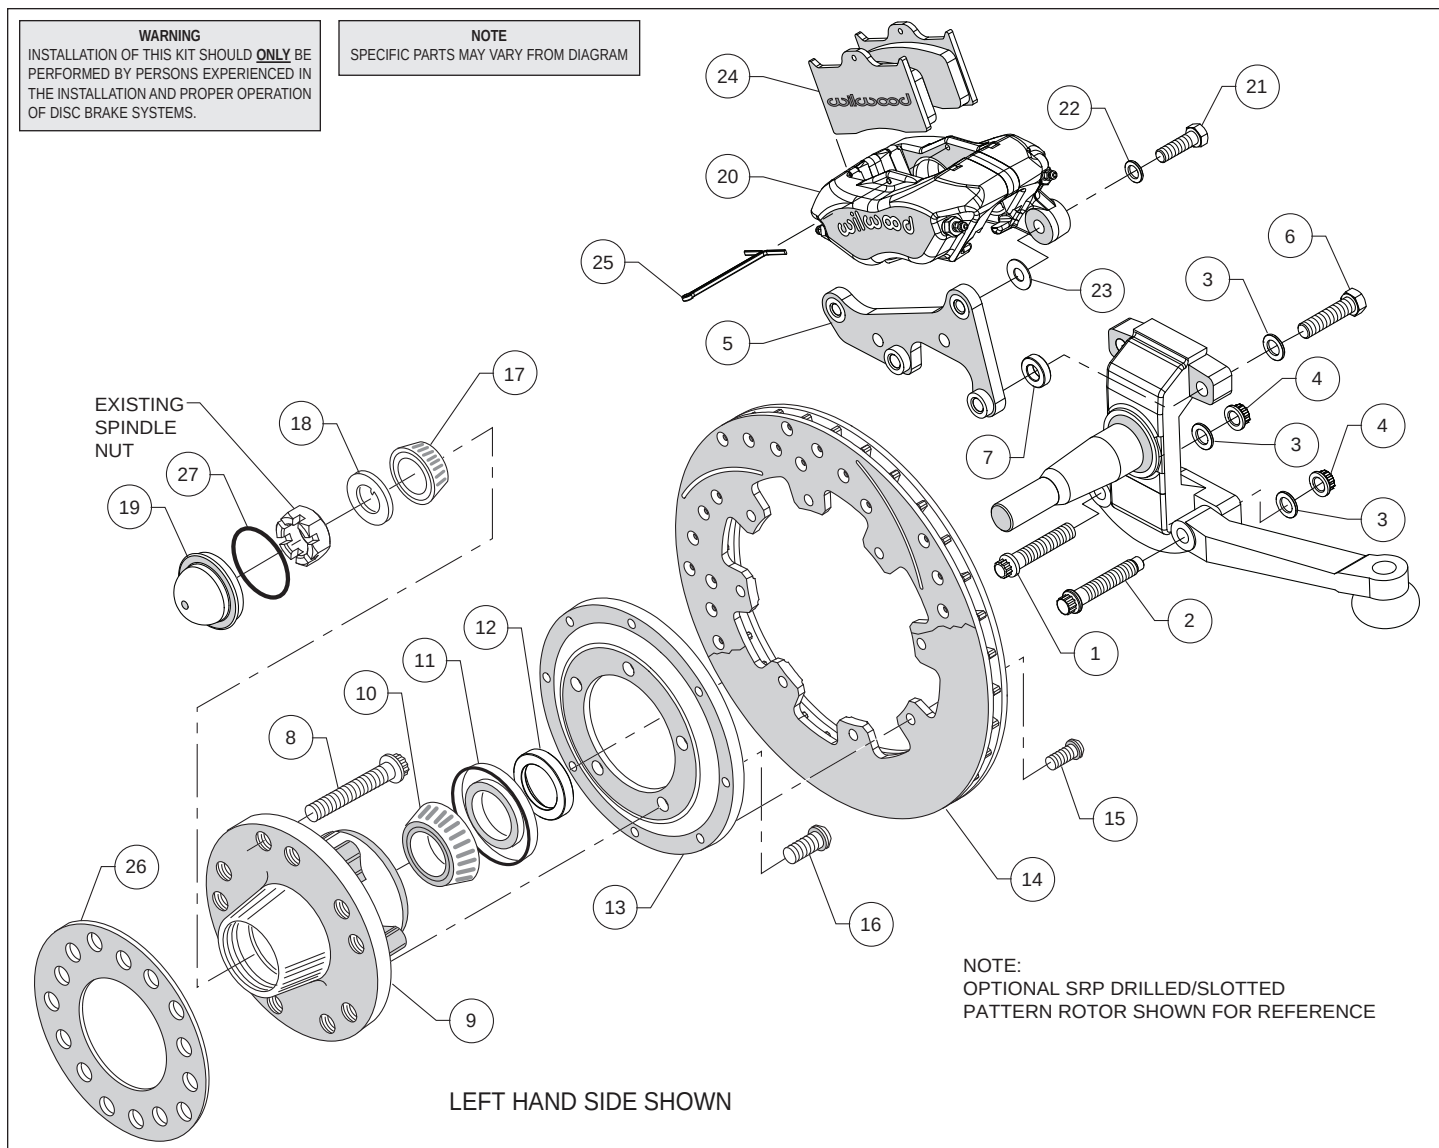
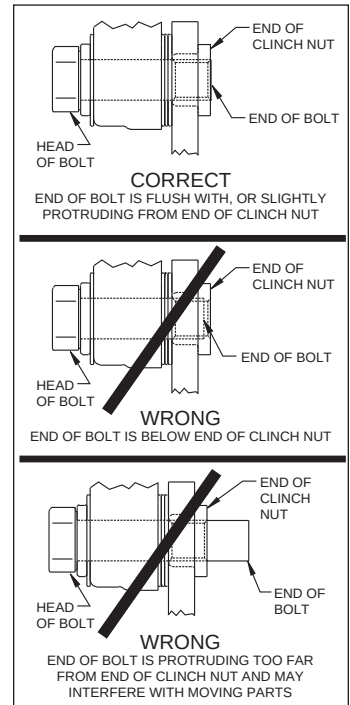

Figure 1. Typical Installation Configuration
Figure 3. Clinch Nut
Assembly Instructions (numbers in parenthesis refer to the parts list and Figure 1 on the preceding pages): **CAUTION:** All mounting bolts must fully engage clinch nuts. Be sure to check that all bolts are either flush or protruding through flanged side of clinch nut after shimming, Figure 3.
- One at a time, remove the two lower OEM bolts that secure the steering arm from the back side of the spindle. Replace with new bolt (1), in the forward most hole, and bolt (2) in the rear hole, Photo 1. **NOTE:** The longer bolt with the end of the threads turned down is the steering stop. The new bolts are installed in the opposite direction as the original bolts, from the outside, Photo 2. Secure bolts using washer (3) and nut (4) as shown in Figure 1. Torque nuts to 47 ft-lb.
- Orient the caliper mount bracket (5) as shown in Figure 1 and Photo 2, and install using bolts (6) and washers (3). Place spacers (7) between spindle and bracket. Ensure that the flanged heads of the clinch nuts in the bracket are facing outboard, Photo 2. Temporarily tighten the mounting bolts. **NOTE:** The bracket must fit squarely against the mount bosses on the upright. Inspect for interference from casting irregularities, machining ridges, burrs, etc. Remove bolts one at a time, apply red *Loctite*® 271 to the threads and torque to 60 ft-lb.
- Install wheel studs (8) into the hub (9), Photo 3. Torque to 77 ft-lb.
- Pack the large inner bearing cone (10) with high temperature disc brake bearing grease (available from your local auto parts store) and install into the backside of the hub (9), Photo 4.
- Install the grease seal (11) by pressing into the backside of the hub (9), flush with the end of the hub, Photo 4.
- Orient the rotor (14) and the rotor adapter (13) as shown in Figure 1 and Photo 5. Attach the rotor to the adapter using bolts (15). Using an alternating sequence, apply red *Loctite*® 271 to the threads, and torque to 25 ft-lb.
- Mount the adapter/rotor assembly (13/14) to the hub (9) using bolts (16), as shown in Figure 1 and Photo 6. Using an alternating sequence, apply red *Loctite*® 271 to the threads, and torque to 55 ft-lb.
- Slide the bearing spacer (12) onto the spindle. Ensure the chamfered I.D. faces inward, Photo 7.
- Pack the small outer bearing cone (17) with high temperature disc brake bearing grease and install into hub (9). Slide the hub/rotor assembly onto the spindle. Secure using spindle washer (18) and nut, Photo 8. **NOTE:** The O.D. of the existing OEM spindle washer may be larger than the I.D. of the dust cap not allowing it to seat against the hub face. Therefore, use the spindle washer (18) supplied with the kit instead of the OEM washer. Adjust bearings by tightening the wheel bearing nut to 60 in-lbs. while turning the hub/rotor assembly. Back off the adjusting nut one slot and install a new cotter pin (not supplied). **The resulting adjustment should be zero (no pre-load to 0.003 inch end play).** **NOTE:** The left hand spindle has left hand threads.
- Install the o-ring (27) onto the dust cap (19). Press the dust cap into the hub (9), Photo 9.
- NOTE:** Please reference the caution statement at the beginning of the assembly instructions. Mount the caliper (20) onto the caliper mounting bracket (5) using bolts (21) and washers (22), as shown in Figure 1. Initially place one .035" thick shim (23) on each bolt between the caliper and the bracket, Photo 10. Temporarily tighten the mounting bolts and view the rotor (14) through the top opening of the caliper. The rotor should be centered in the caliper, Photo 11. If not, adjust by adding or subtracting shims between the bracket and the caliper. Always use the same amount of shims on each of the two mounting bolts. **NOTE:** The end of each bolt must be flush with or slightly protruding from the head of the clinch nut, as shown in Figure 3. If necessary place spare shims between washer (22) and caliper mounting ear to achieve the proper clinch nut engagement. Once the caliper alignment and clinch nut engagement are correct, remove the bolts one at a time, apply red *Loctite*® 271 to bolt threads, and torque to 40 ft-lb.
- Install the disc brake pads (24) into the caliper, with the friction material facing the rotor (14), and secure in place using cotter pin (25), Photo 12.
- Install wheel spacer (26) as shown in Figure 1 and Photo 13. Temporarily install wheel and torque lug nuts to manufacturer's specification. Ensure that the wheel rotates freely without any interference. **NOTE:** Wheel spacer (26) **MUST** be used if any wheel contact surfaces overhang the outside diameter of the hub face. See warning on page 3.